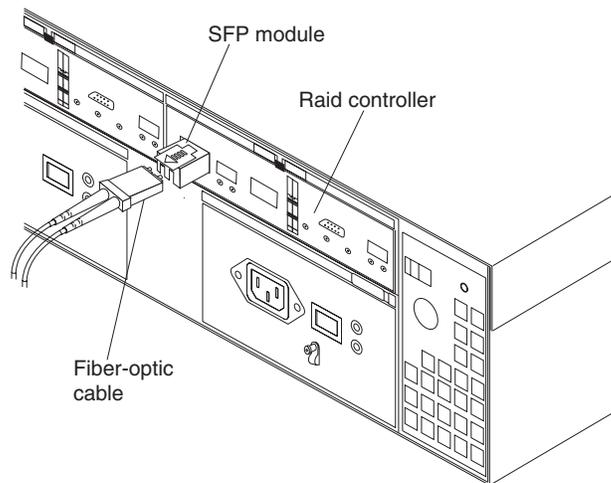

Figure 21. Installing an SFP module into the host port
4. Insert the SFP module into the host port until it clicks into place. See Figure 21.